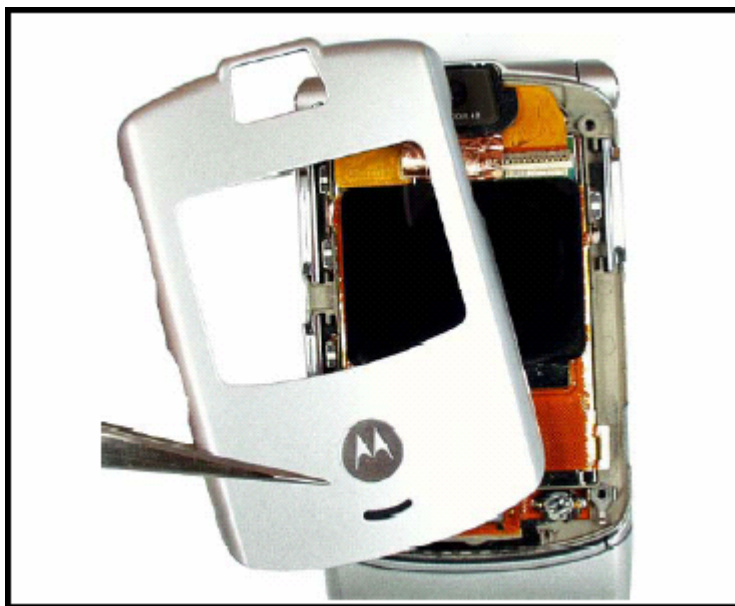

Fig 12
7. Lift the flip cover away from the flip assembly. Be careful not to damage the display flex cable (see Figure 12).